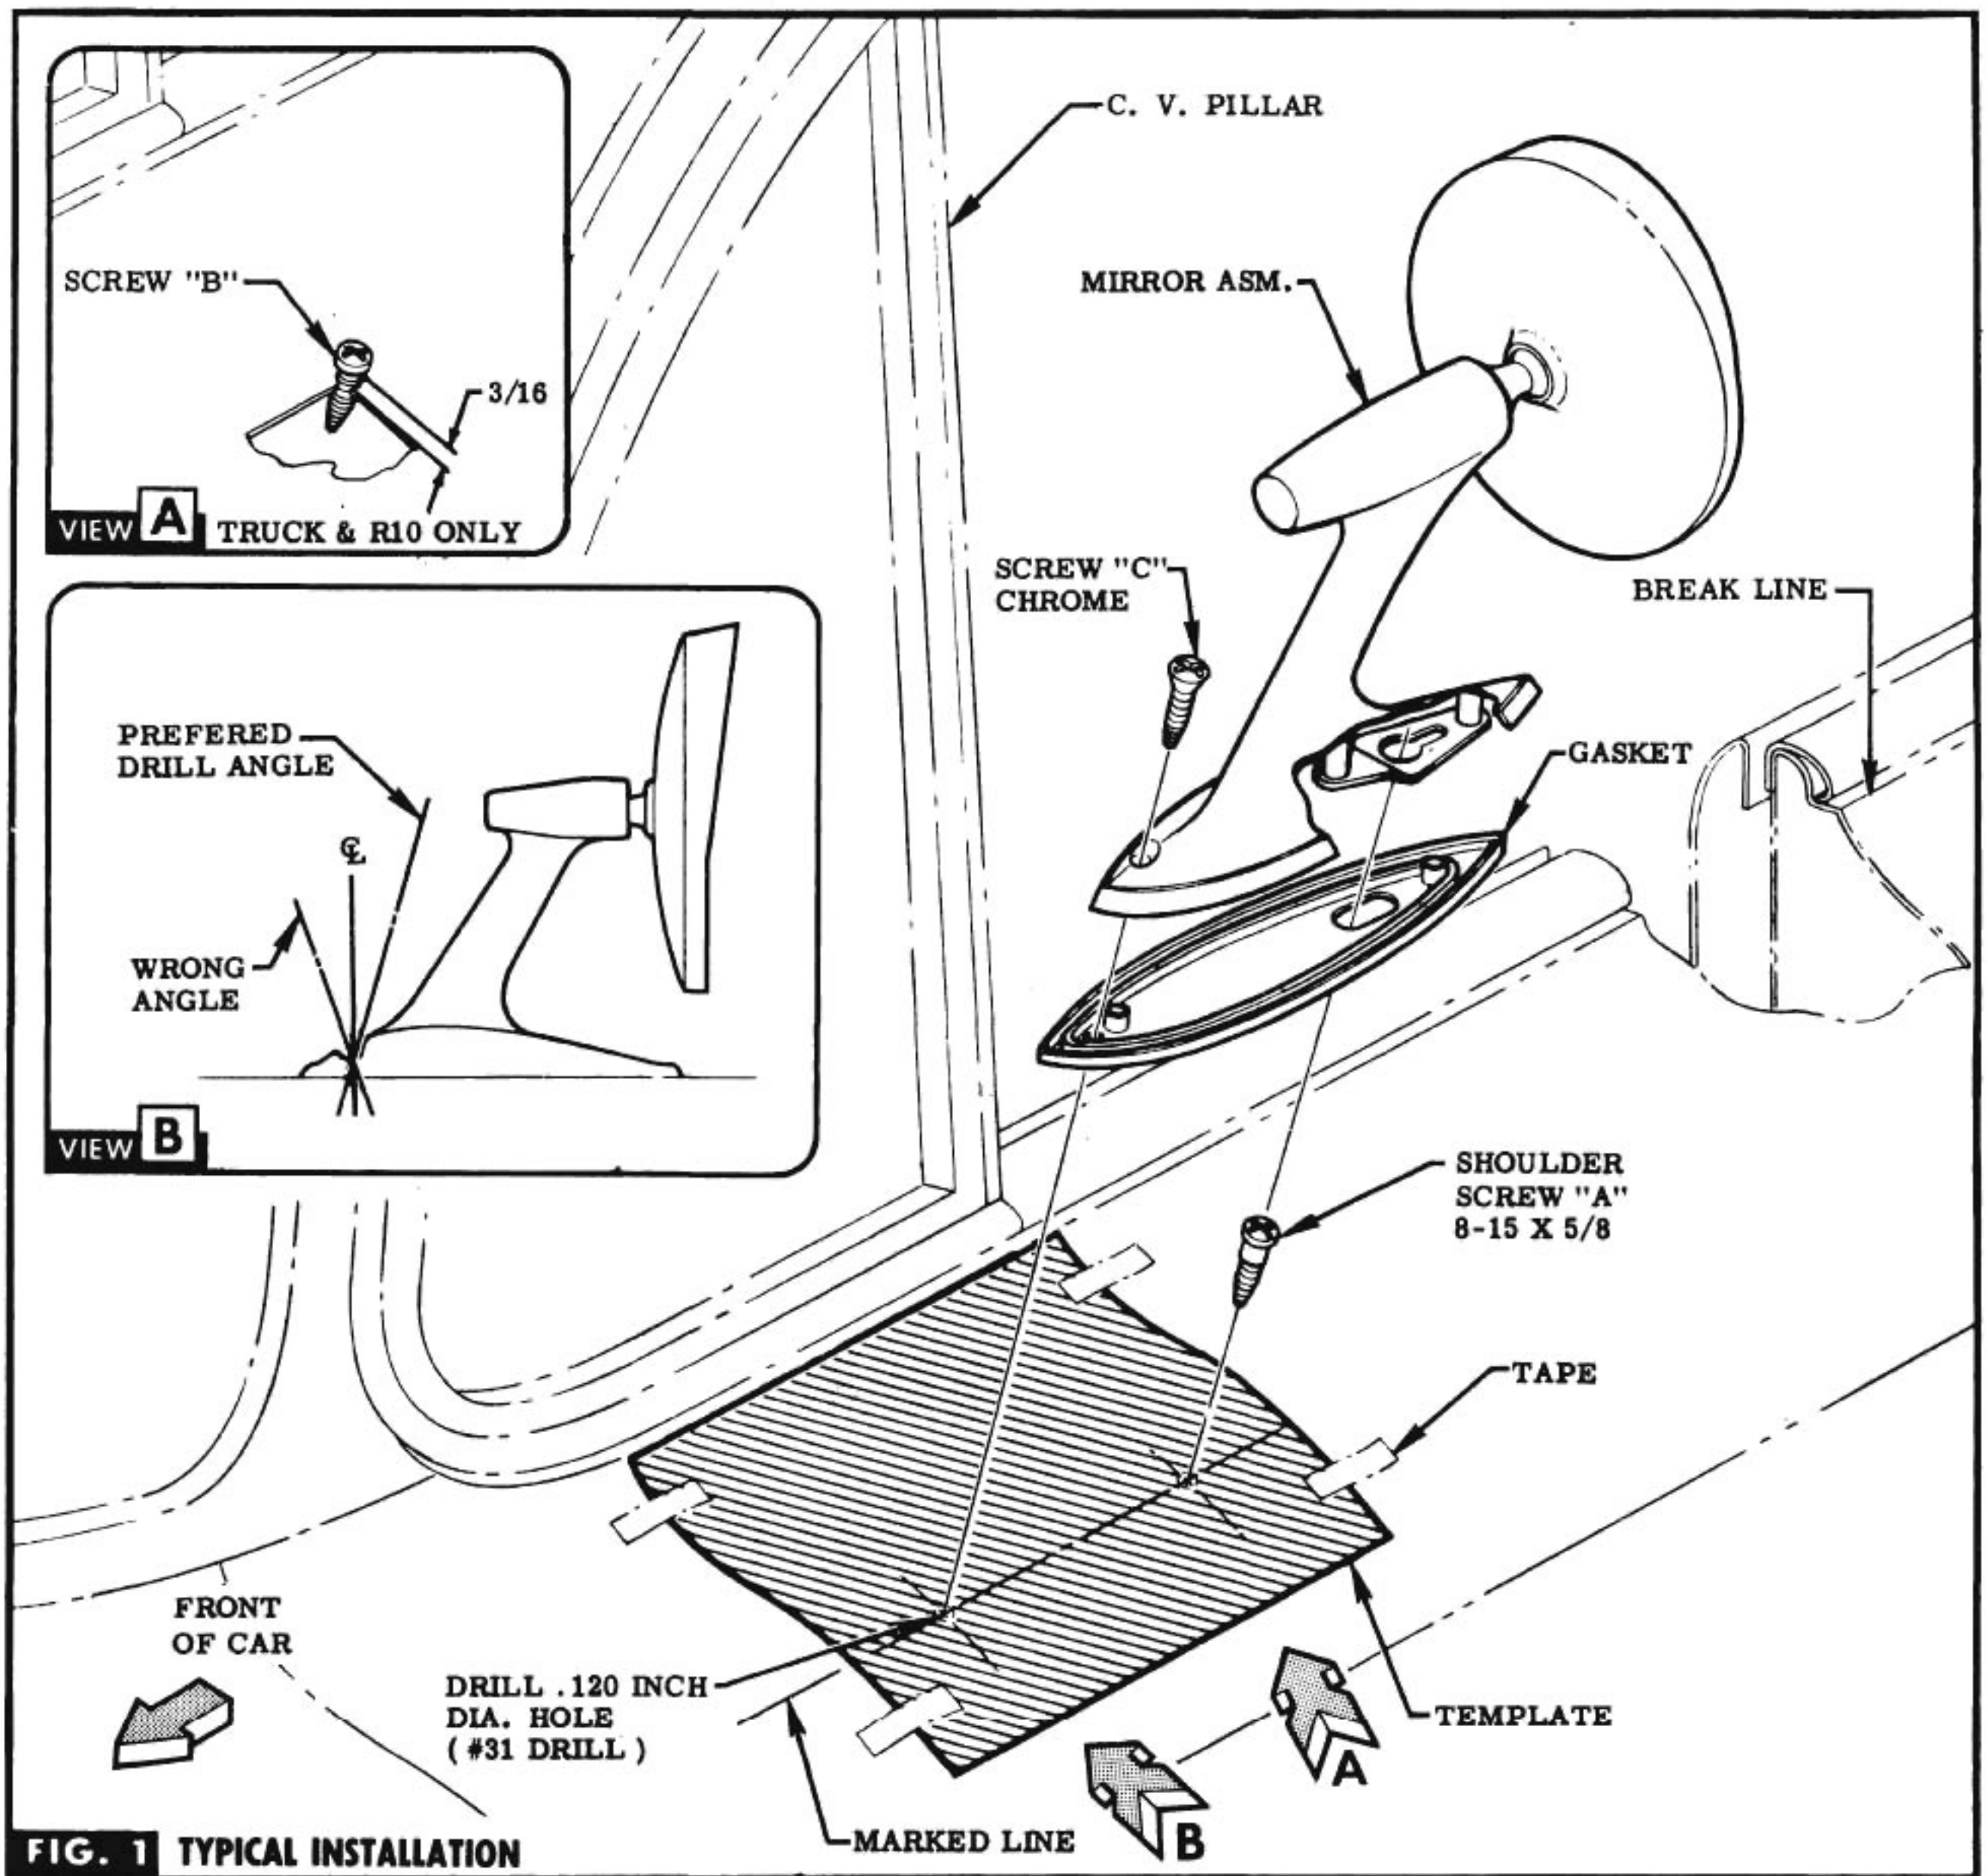

FIG. 1 TYPICAL INSTALLATION
STEP 1 FOLLOW DIRECTIONS ON TEMPLATE, FOR MODEL DESIGNATION & LOCATION. TAPE TEMPLATE IN PLACE. SEE FIG. 1.
STEP 2 LIGHTLY CENTERPUNCH AT REAR HOLE LOCATION, & MARK CENTERLINE WITH CHALK OR GREASE PENCIL ON DOOR SURFACE FORWARD OF TEMPLATE. SEE FIG. 1.
STEP 5 PLACE GASKET ON MIRROR BASE & PLACE MIRROR OVER SCREW "A" OR "B", SLIDE MIRROR FORWARD TO LOCK IN PLACE. SEE FIG. 1.
STEP 6 LINE UP FORWARD TIP OF MIRROR BASE WITH LINE PREVIOUSLY MARKED ON DOOR. SEE FIG. 1.
STEP 7 DRILL FRONT HOLE THRU EXISTING HOLE IN MIRROR BASE, AT ANGLE AS SHOWN IN VIEW B. **NOTE** Care should be taken not to mar chrome. Insert screw "C" provided, tighten securely. See Fig. 1.